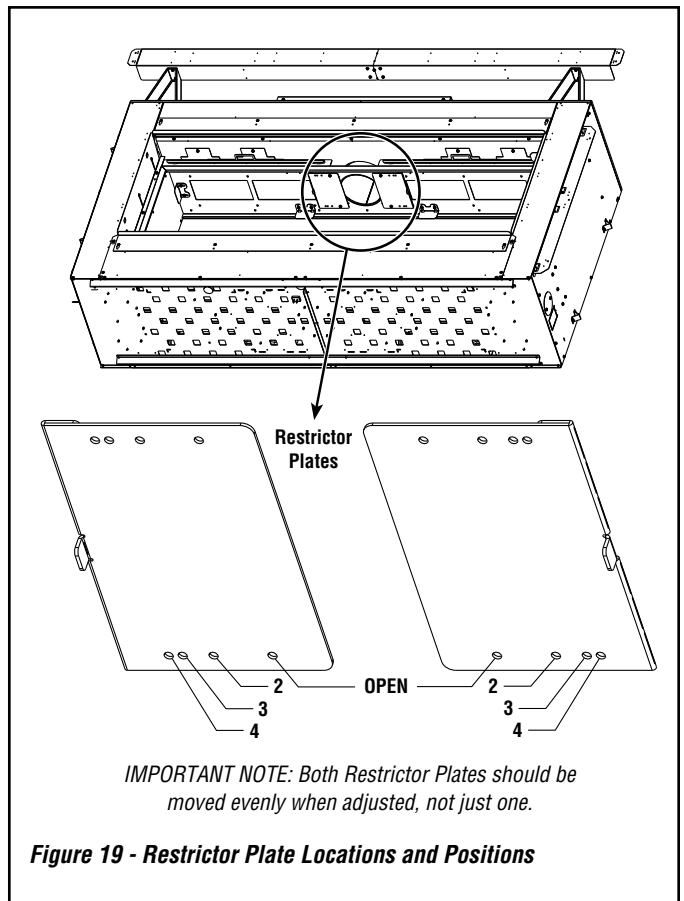

Figure 19 - Restrictor Plate Locations and Positions
- 10.3 Remove four (4) screws holding the two (2) **restrictor plates** to the top of the firebox (hold on to plates while removing screws as the plates will fall out when removed). Mount the restrictor plates back to the firebox using **hole position #4** (closed position). See *Figure 19* for plate hole locations and restriction settings.